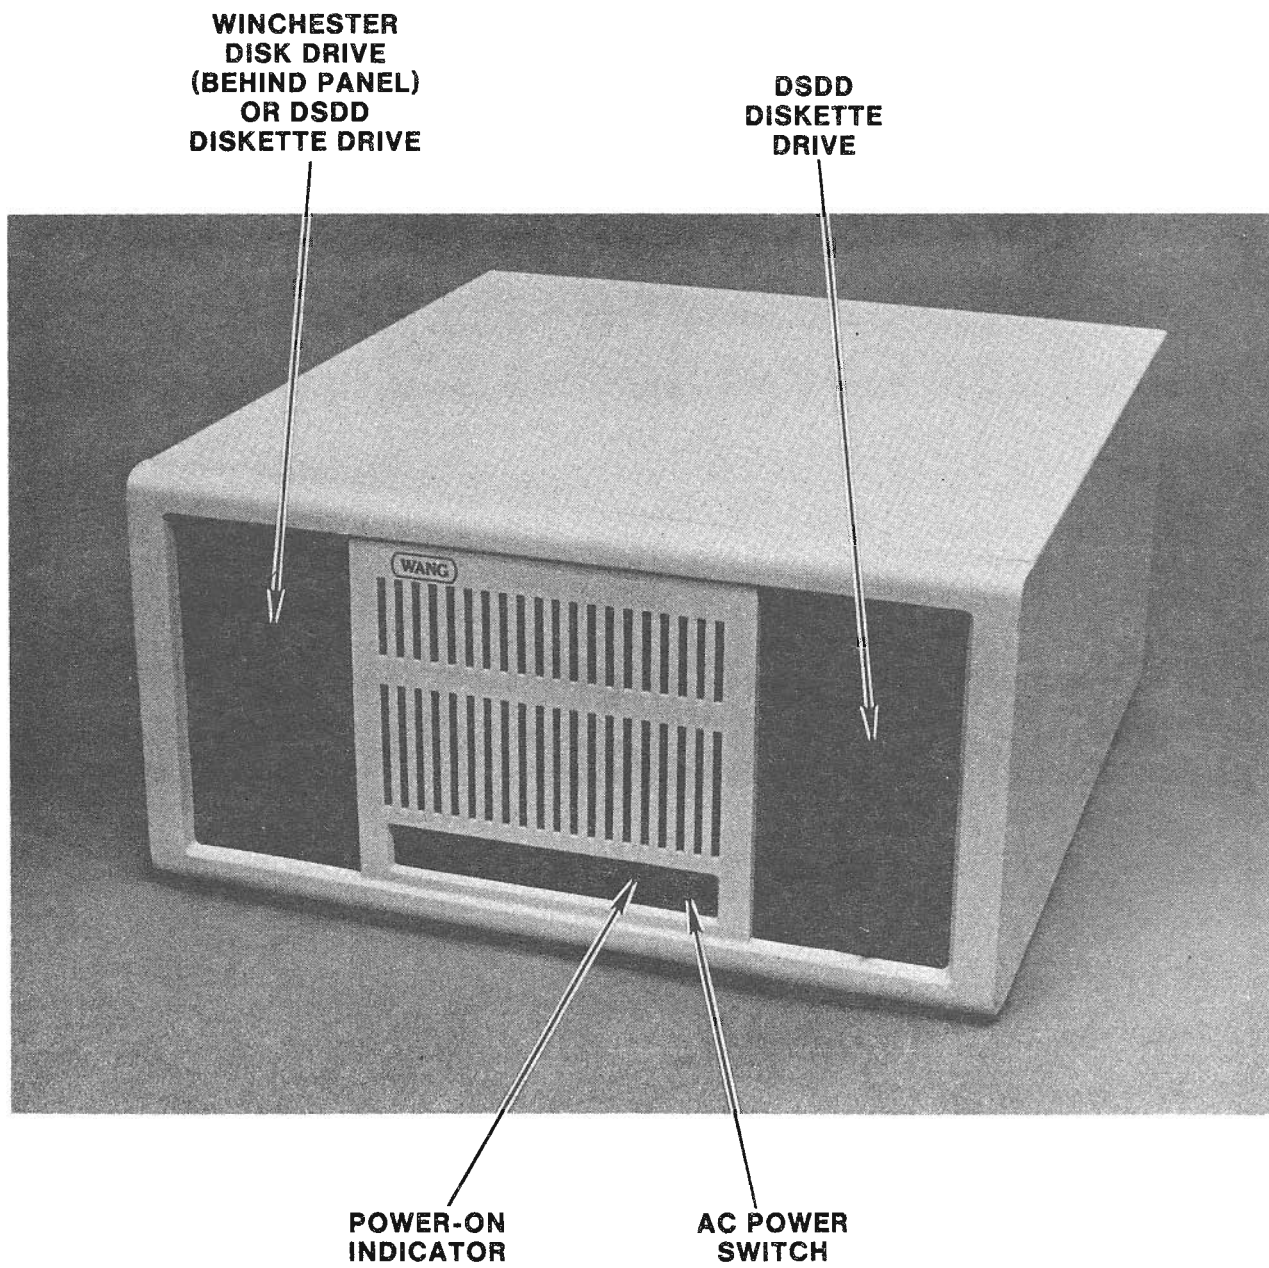

FIGURE 8-1 2200SVP (FRONT VIEW)
- photographs (Figures 8-1 through 8-6) in which the major components of the 2200SVP are pointed out--to familiarize the Customer Engineer with the physical aspects of the SVP.